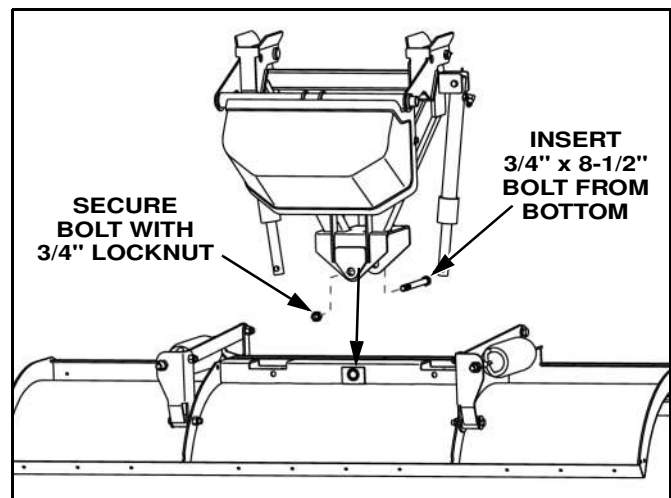

Figure 1-7
13. With the blade still face down pick up the power unit and slide the A-frame over the blade. Insert the 3/4" x 8 1/2" bolt from the bottom up and secure with a 3/4" lock nut. (See Figure 1-7)